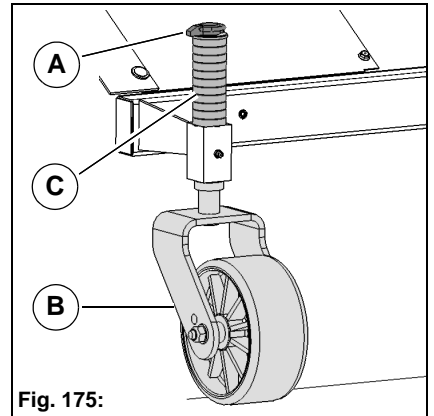

Fig. 175:
2. Remove the split-pin **Fig. 175-A** from the bolt of the wheel fork and withdraw the supporting wheels **Fig. 175-B** downwards.
3. Adjust the sweeping level with the washers **Fig. 175-C** on both supporting wheels. For optimum sweeping effect the bristles should press over the ground approx. 20 mm.